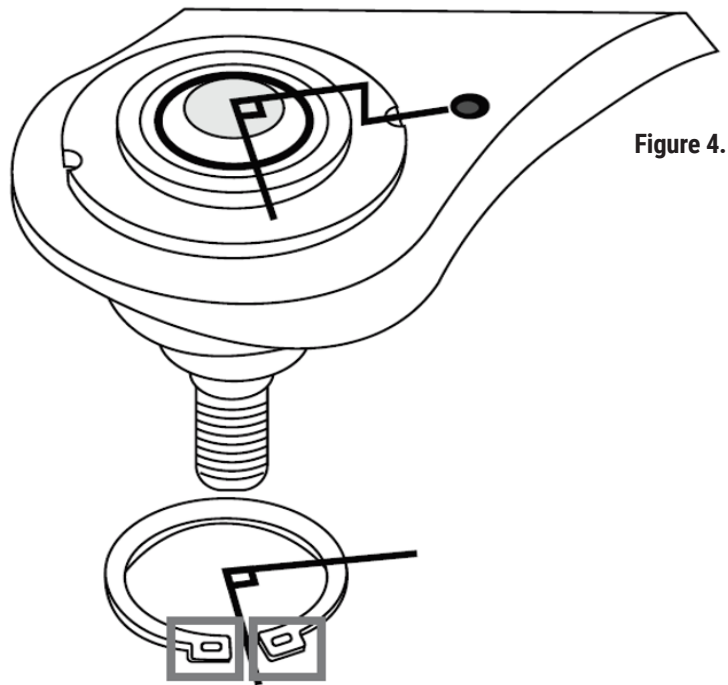

Figure 4.
- Circlip holes must be orientated 90° from index marks. **See Figure 4.**